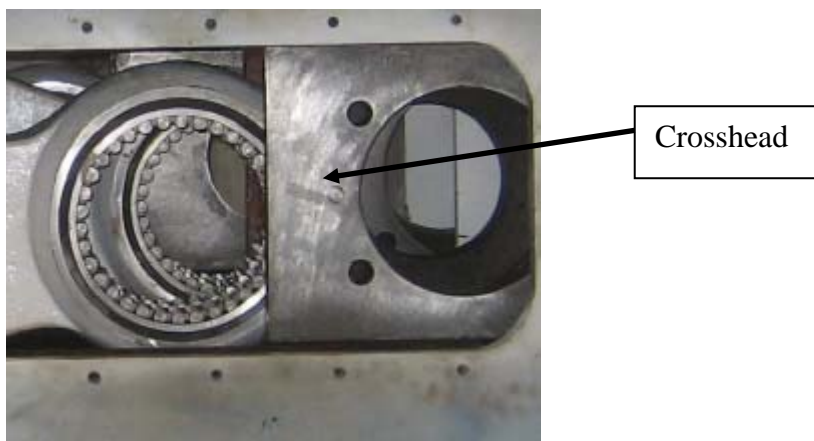

Figure 5-15 Crosshead
1. Separate the connecting rods from the crossheads. (See crankshaft assembly) (Figure 5-15).
3. Slide crosshead (with extension rod attached) forward to permit access to bolts securing extension rod to crosshead. (Figure 5-15,).